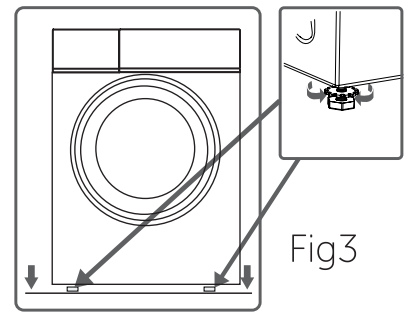

Fig3
- 3:**First,loosen the plastic adjustment nut.(Fig 3)